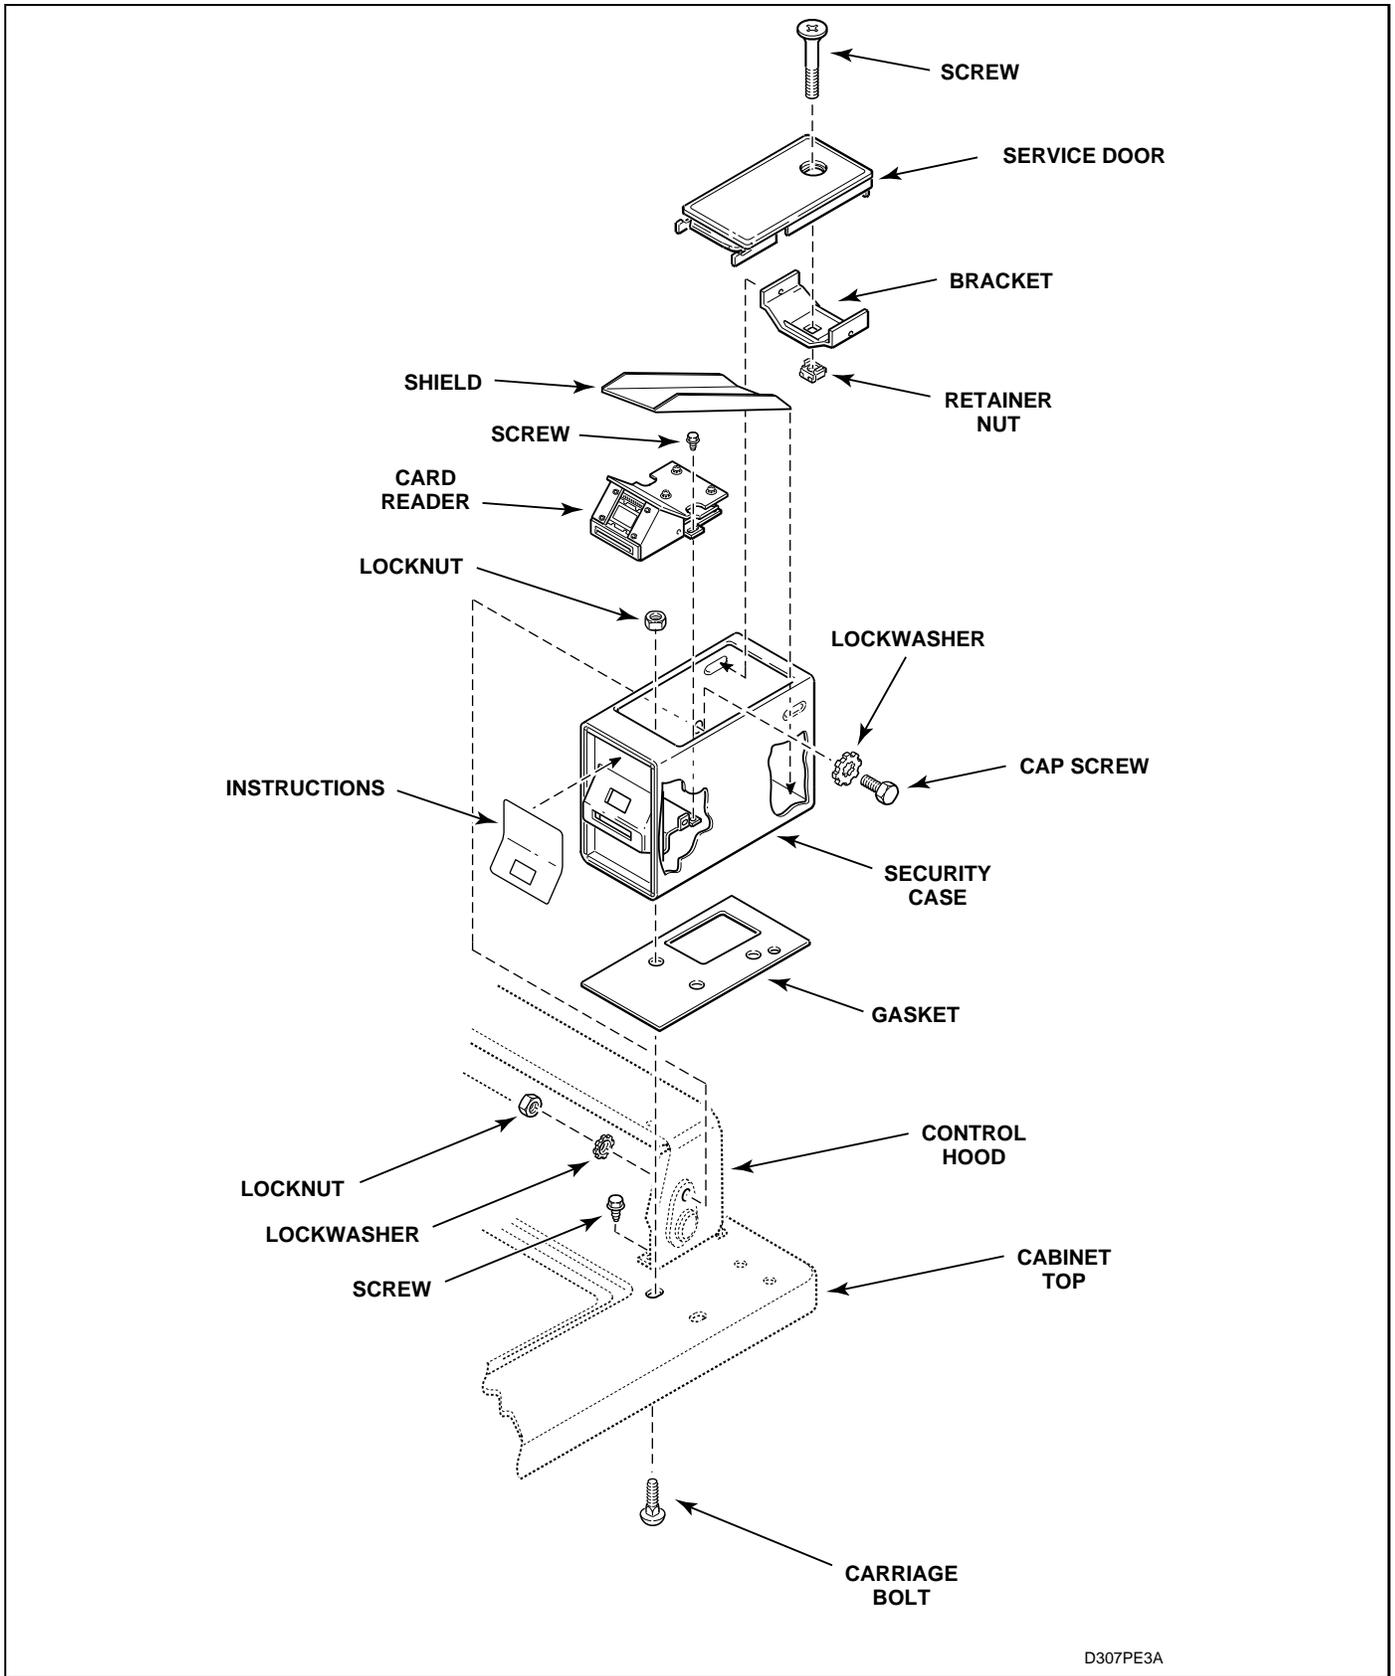

Figure 28
- c. Loosen screw holding service door to security case and remove service door, bracket and retainer nut. See *Figure 28*.
- d. Remove shield from inside security case. See *Figure 28*.
- e. Remove two screws holding card reader to security case. See *Figure 28*.
- f. Pull card reader out of security case as far as wires will permit. See *Figure 28*.
- g. Disconnect wires from card reader. See *Figure 28*.
- h. Remove cap screw, lockwashers and nut holding security case to control hood. See *Figure 28*.
- p. Lay the cabinet top assembly flat and remove two carriage bolts and nuts holding front of timer case to cabinet top. See *Figure 28*.